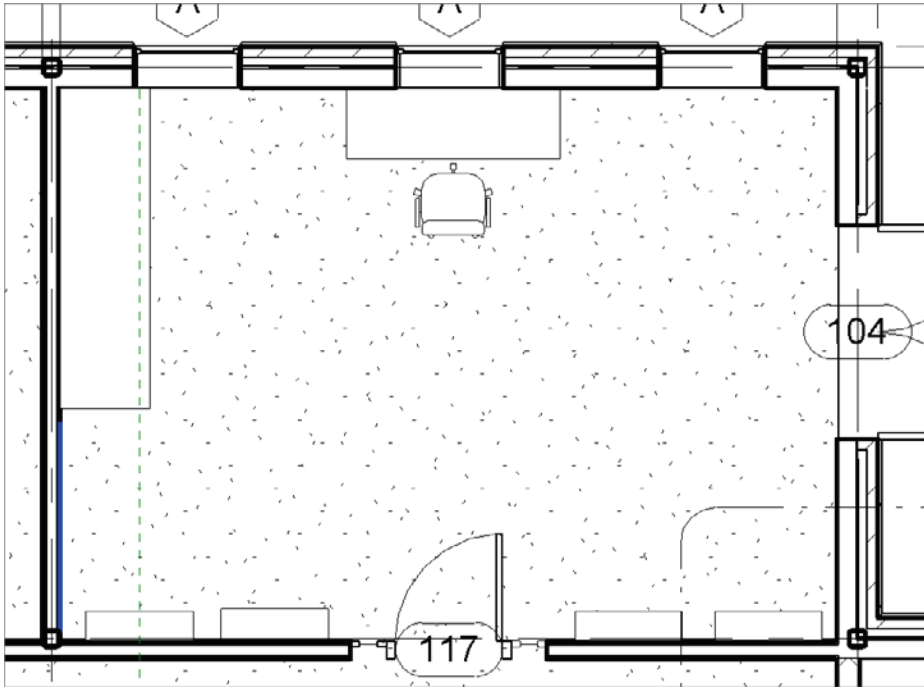

FIGURE 9.53 Adding furniture to the office
8. From the Type Selector, select Chair-Executive and place it in front of the credenza, as shown in Figure 9.53.
9. In the Type Selector, select the Entertainment Center $96'' \times 84'' \times 30''$ ($2743 \times 2134 \times 762\text{mm}$) and place it in the corner, as shown in Figure 9.53.
10. Place four $36''$ ($915 \times 9254 \times 1830\text{mm}$) shelving units across the south wall, as shown near the bottom of Figure 9.53.